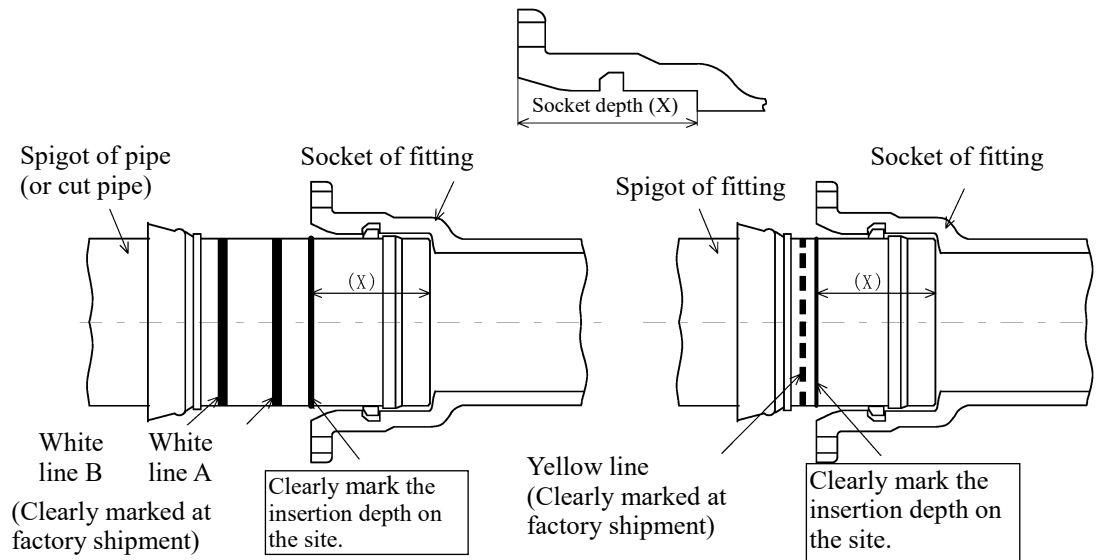

Figure-26 Marking of insertion depth
- (1) Follow "1. Pipe set-up" through "4. Installation of the rubber gasket and backup ring" in "II. NS Pipe assembly procedure".
- (2) Marking the depth of spigot insertion
Before insertion of the spigot into the socket, measure the socket depth (X) and draw a white line at the distance of X from the spigot end to indicate the insertion depth. The line shall be marked on the entire periphery of the outer surface of the spigot. (See Figure-26).